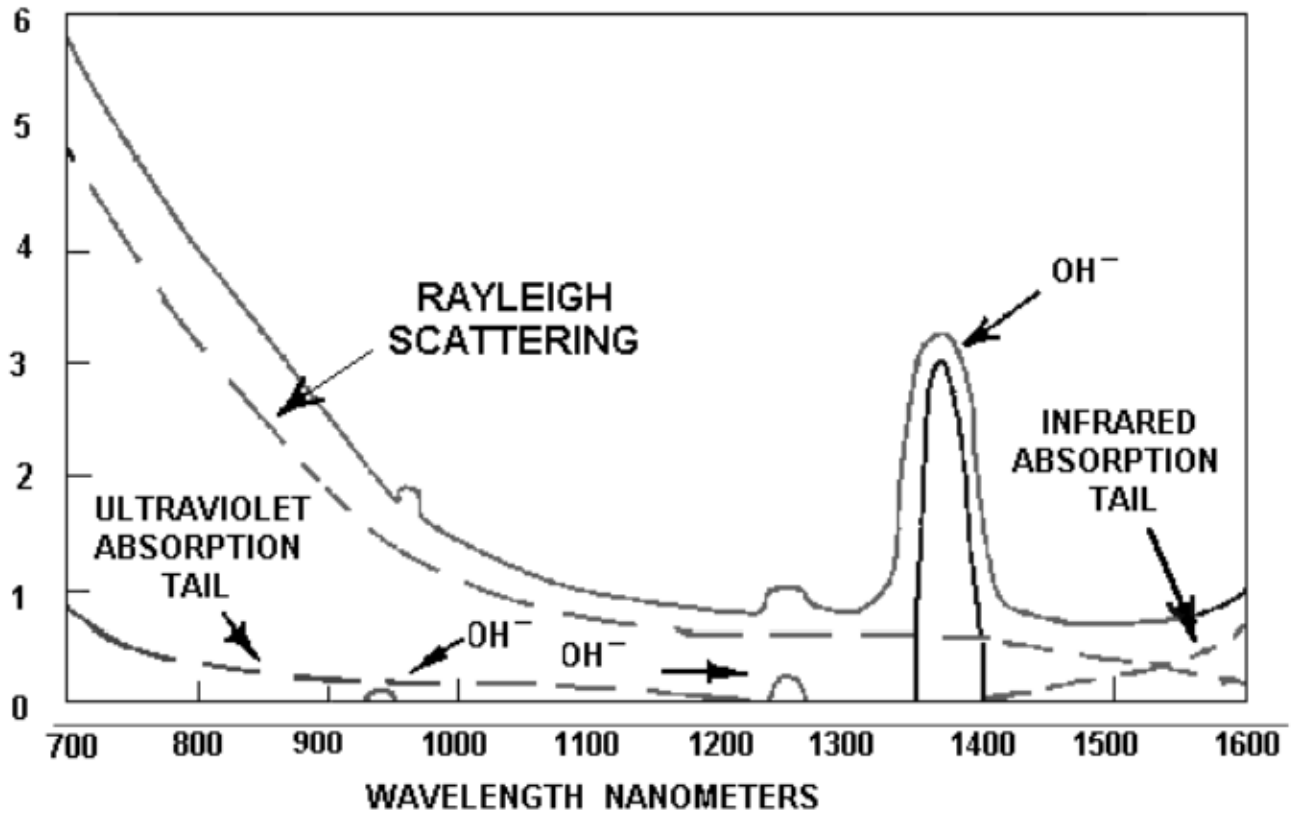

Figure 2-21.—Fiber losses.
- Operating Wavelengths: Silica fibers operate between 700 nm and 1600 nm, avoiding high intrinsic absorption in ultraviolet and infrared regions (see Figure 2-21).
- Hydroxyl Ions (OH): Water impurities form silicon-hydroxyl (Si-OH) bonds, leading to absorption peaks at: